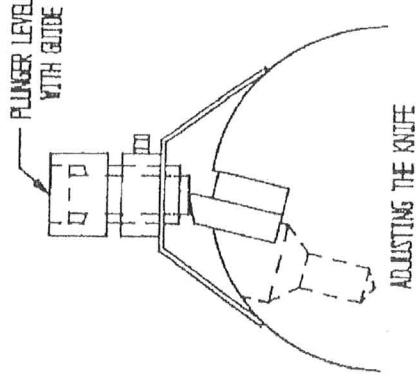

Fig. A-9
8. Place the knife gauge over the knife with the bottom of the plunger on the knife edge (see fig. A-9).
9. Adjust the knife up by turning the adjusting jack screw counter-clockwise until the knife gauge plunger is level with top of the plunger guide (see fig. A-9).